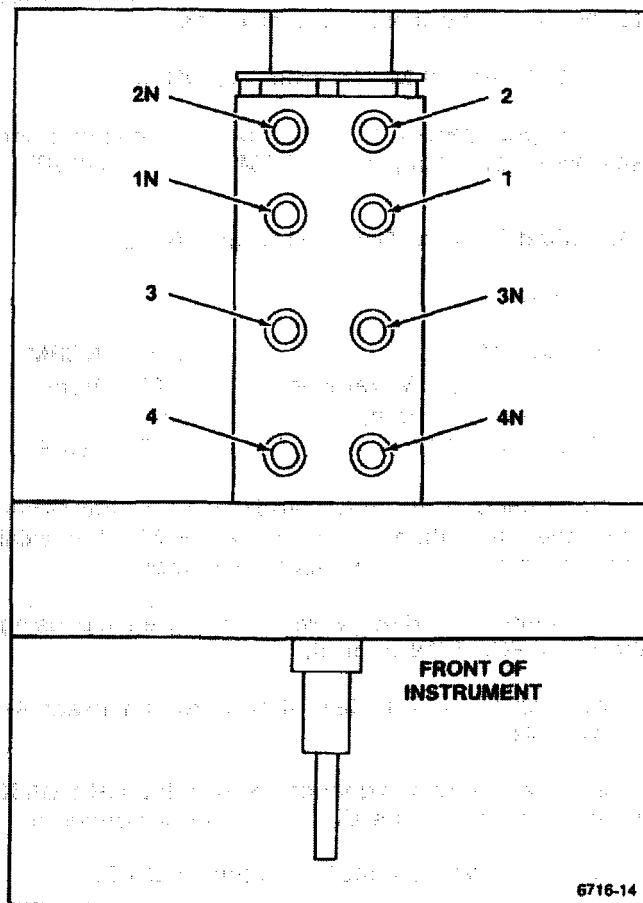

Figure 5-1. Attenuator trimmer adjustments.
- f. ADJUST—Trimmer "1" for flattest response on the square wave signal. See Figure 5-1 for location of the trimmers.